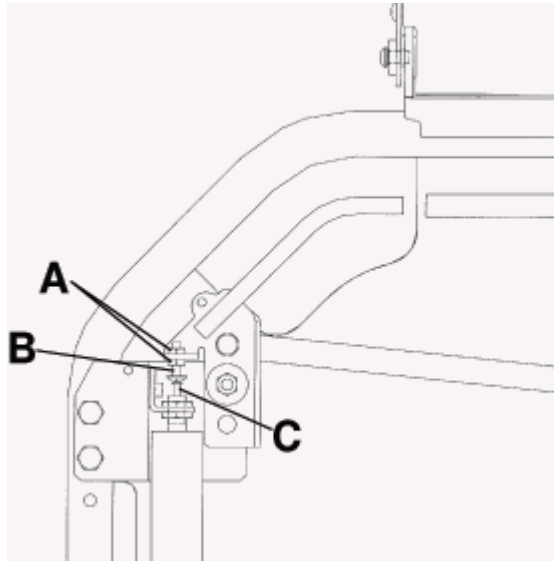

Figure 12 – 5051 Pneumatic Fowler backrest adjustment
4. Using two 3/8" combination wrenches, loosen the two nuts (A) on the adjustment screw (B) (Figure 12). If the Fowler backrest does not hold its position, turn the adjustment screw up, away from the release pin on the pneumatic cylinder (C). If the Fowler backrest does not release, turn the adjustment screw down toward the release pin on the pneumatic cylinder.
5. Tighten the two nuts (A).